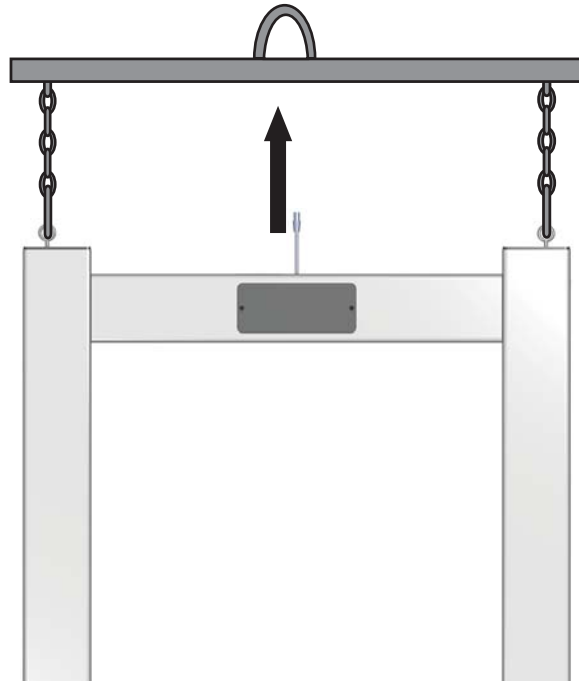

Figure 2-1. Proper Lifting Technique
Lift the scale only with a properly designed spreader bar as shown in Figure 2-1. Lifting force must be vertical to avoid bending the eye bolts.
1. Lift scale with chains and a proper spreader bar. See Figure 2-1 on page 4.